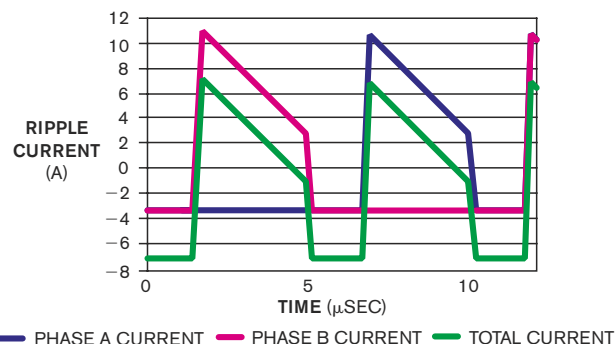

Figure 5 Interleaving reduces the two-phase converter's output-capacitor ripple current.
**Figure 5** shows the interleaved-boost converter's individual and combined output-capacitor currents. Not counting the inductor slope, the phase A and B currents' peak-to-peak amplitudes are half those of the single-phase design because the duty
cycle of the current flowing into the output capacitors is twice that of the single-phase design. In **Figure 5**, the rms value of the combined or total waveform is 5A, allowing half the number of output capacitors to maintain a ripple voltage no greater than that of the single-phase design.